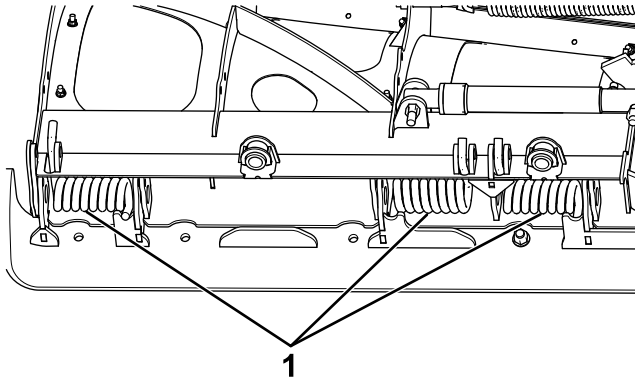

Figure 51
1. Position the torsion springs so that the long, angled leg is inserted through the hole in the bottom channel (Figure 51).